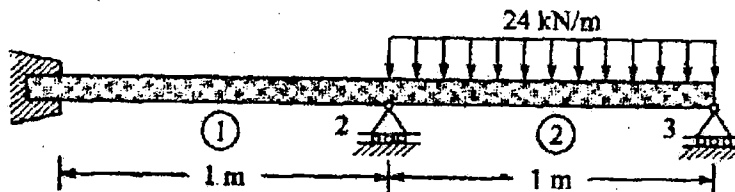

Fig. 2
- (b) For the beam shown in Fig.2, determine
- (ii) Vertical deflection at the mid-point of the distributed load. All the elements have $E = 200 \text{ GPa}$ and $I = 5 \times 10^6 \text{ mm}^4$. (16)